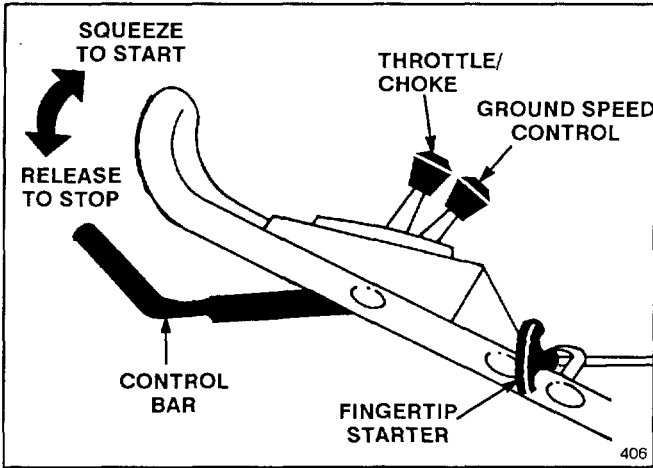

Figure 5
1. CONTROLS – Ground speed control, throttle, blade/self-propelled control bar, and fingertip starter are on upper handle (Fig. 5).
3. Move throttle to **N** (CHOKE) (Fig. 5).
4. Move ground speed control to **N** (Fig. 5).
10. Move ground speed control to desired setting (Fig. 5).